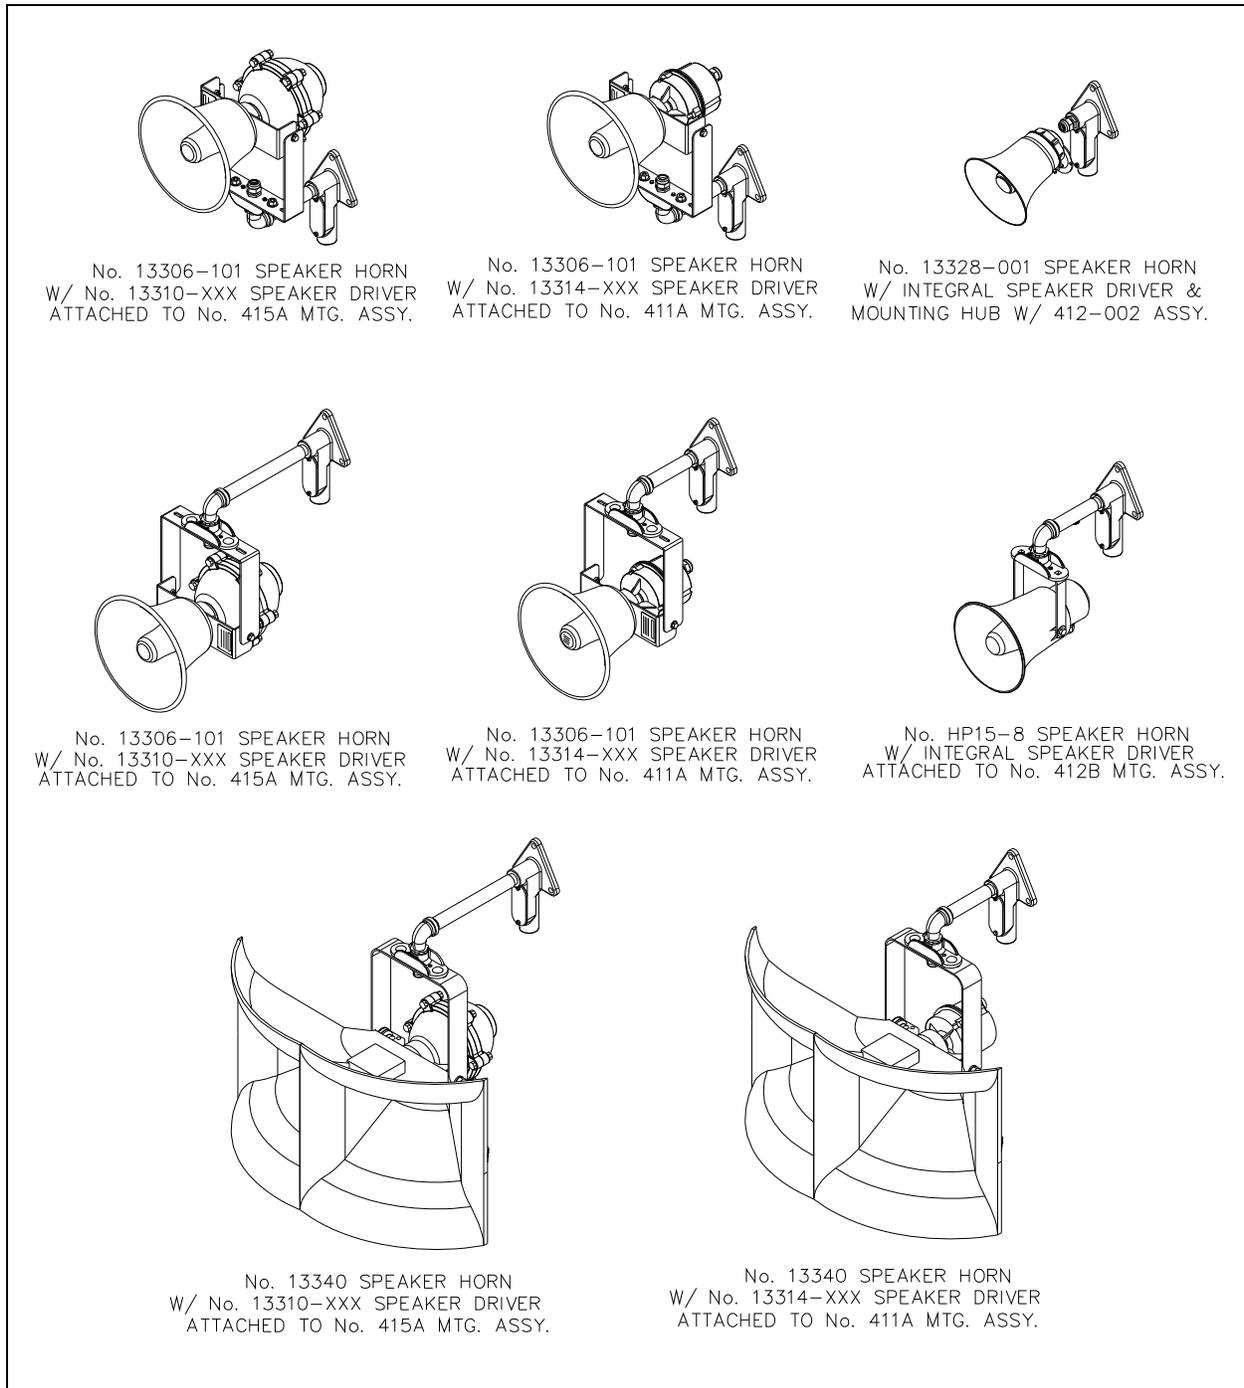

Figure 5.
2. When mounting the GAI-Tronics part # 13306-101 speaker horn in an upright orientation, the 411A mounting assembly can be used with either the 13310 or 13314 Driver. See Figure 5.